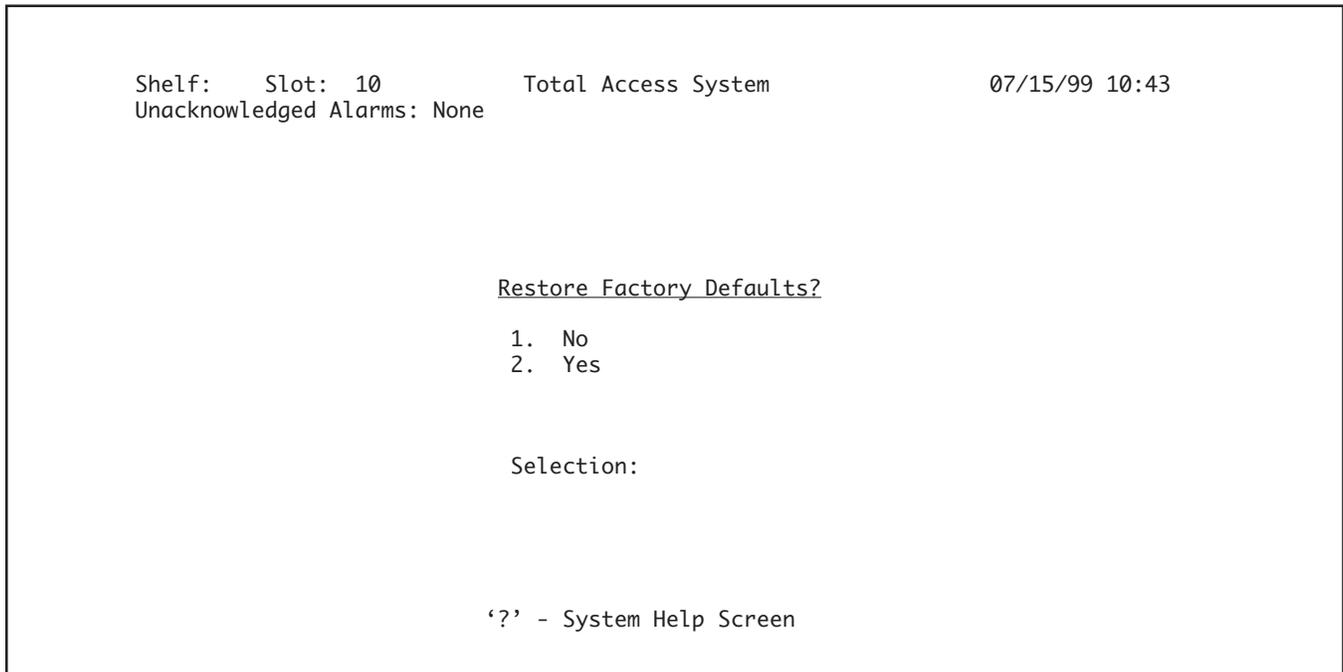

Figure 15. Restore Factory Defaults Screen
1. From the Provisioning of All Ports Screen, type “5” and press Enter to select Restore Factory Defaults. The Restore Factory Defaults Screen (**Figure 15**) will appear.